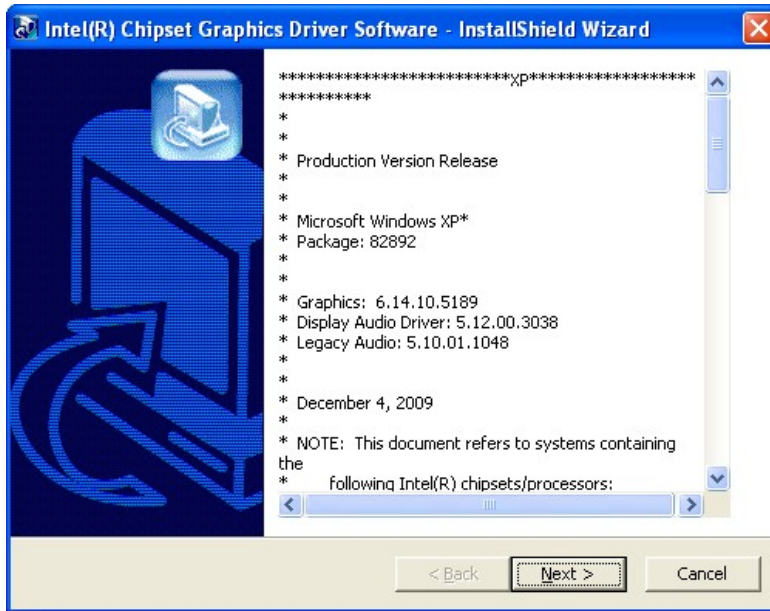

Figure 6-8: VGA Driver Readme File
- Step 4:** The **VGA Readme File** in **Figure 6-8** appears.